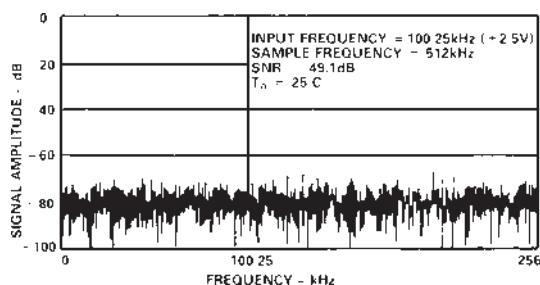

Figure 8. FFT Plot
Figure 8 shows a 2048 point FFT plot of the AD7821 with an input signal of 100.25 kHz. The SNR is 49.1 dB. It should be noted that the harmonics are taken into account when calculating the SNR. The theoretical relationship between SNR and resolution (N) is expressed by the following equation: